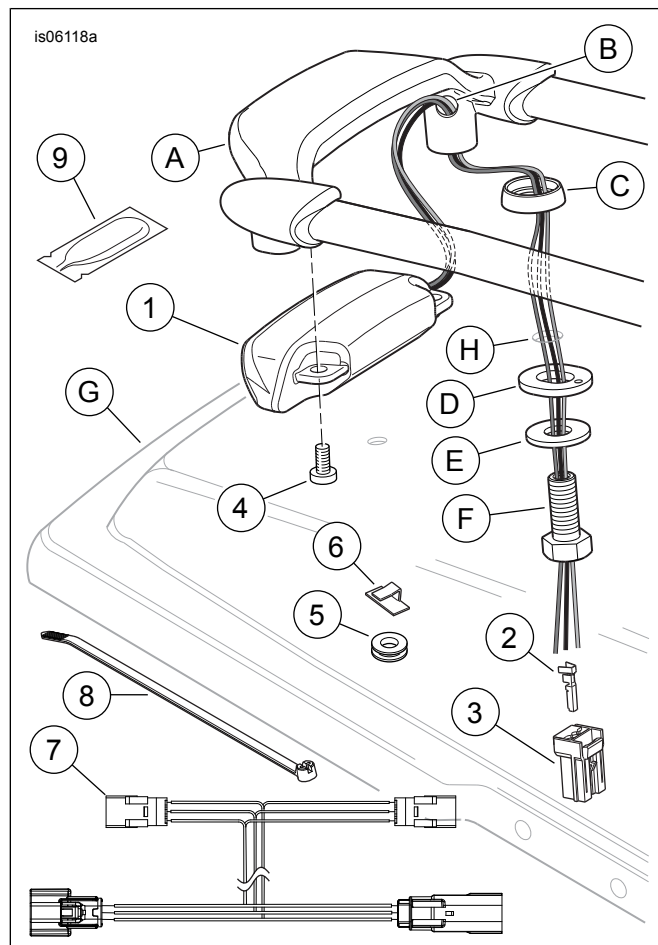

Figure 3. Service Parts, Air Wing Saddlebag Lid Rail Light Kits
See Figure 3 and Table 1.
2. **ALL installations:** See Figure 3. Obtain a saddlebag rail light assembly (1) from the kit.
3. Insert the light wires through the hole (B) in the side of the saddlebag rail (A) mounting post, and out through the bottom of the post.
4. Install the light to the underside of the saddlebag rail rear cross bar with two screws (4) from the kit. Tighten the screws securely.
5. Insert the light wires through the left rear saddlebag rail mounting pad (C) and the left rear hole (H) in the saddlebag lid (G). Assemble the saddlebag rail to the lid per the instructions in the Air Wing Saddlebag Rail Kit, feeding the wires through the left rear saddlebag rail nylon washer (D), plain washer (E) and the hex head hollow screw (F). Tighten the two **Phillips head** screws to 3.1–3.5 N·m (27–31 **in-lbs**). Tighten the hex head **hollow** screw to 3.4–5.6 N·m (30–50 **in-lbs**).
2. See Figure 3. Obtain three socket terminals (2) and one socket housings (3) from the kit. See the service manual for the instructions to crimp the terminals onto the saddlebag rail light wires. Apply dielectric grease to terminals.